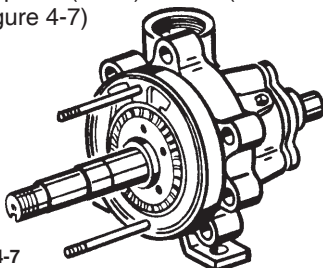

Figure 4-7
7. Next put a key (#23) into the keyway in the shaft and slide an impeller (#11B) over it. (refer to figure 4-7)